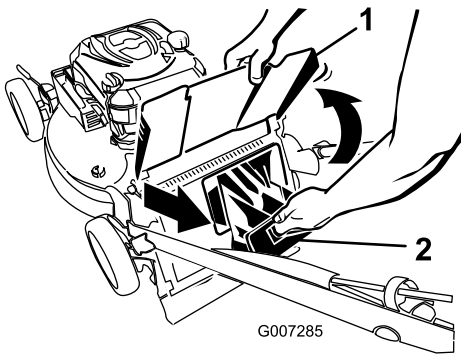

**Figure 22**
1. Route the starter rope around the lower rope guide (Figure 22).